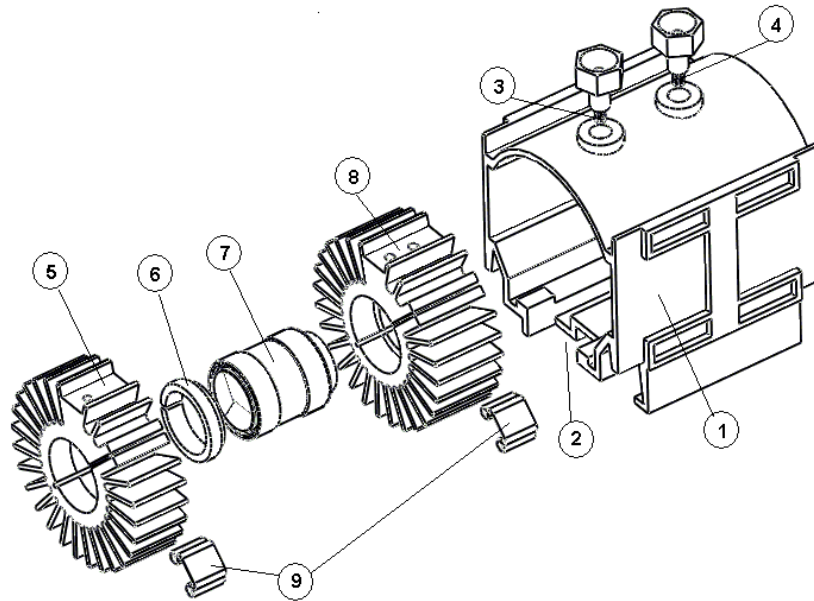

Figure 5-1. Lamp bulb assembly components.
1. Remove both terminals (see Figure 5-1) from the blue housing.
5. The mounting ring (see Figure 5-1) might still be inside the front heat sink. Remove it and set it aside. You will need it if the new bulb does not have one.